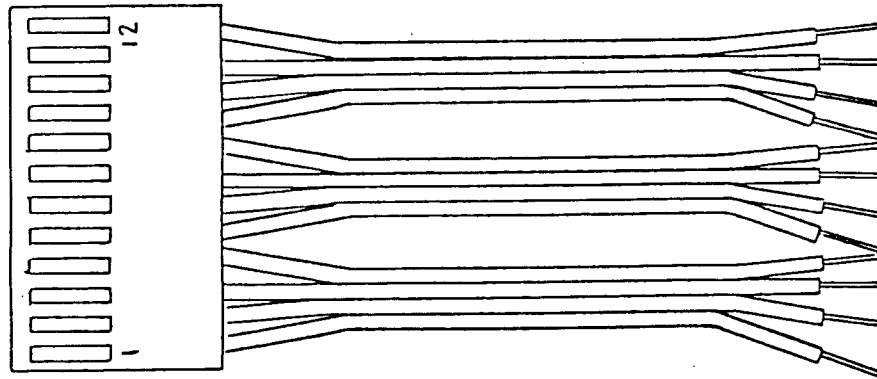

Figure 8-1. Flat-wire
- A flat-wire type cable, with female connector (see Figure 8-1) which plugs into a male 12-pin in-line connector on the switch board.